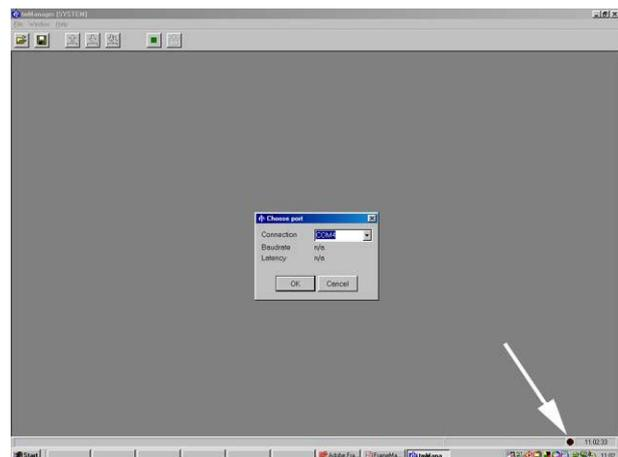

Fig 8.
- 5 Click on the black circle (arrowed) in the bottom right hand corner of the screen. ⇒ Fig 8. \(□ 16\).